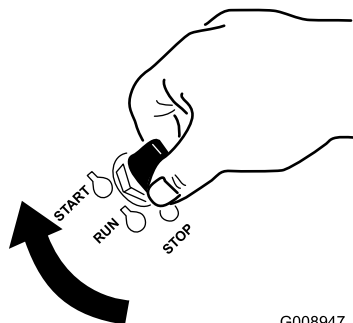

Figure 21
6. Turn the ignition key to the START position (Figure 21).